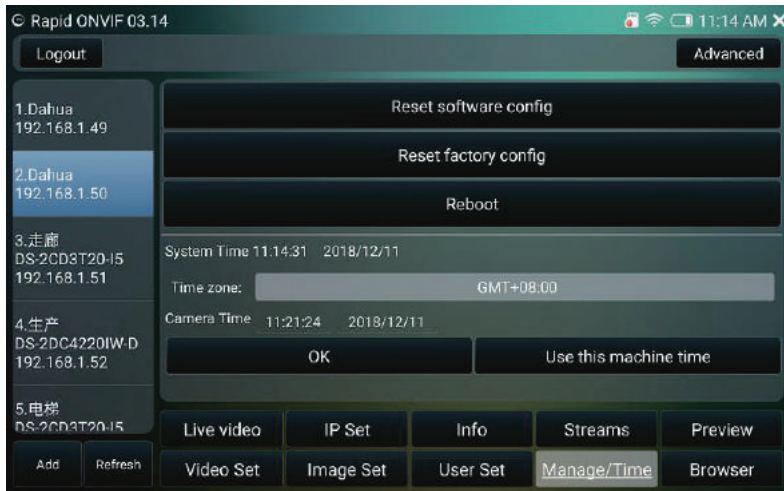

Figure 21
2) Maintenance / time, touch the Manage / Time setting button to reboot camera, reset configuration or change Time zone, as shown in Figure 21
File management function enables you to perform copy, move, rename or other operations for internal storage and external SD card files conveniently, when the instrument is connected to LAN, FTP function is also available, you can perform file operations directly on computer instead of pulling out SD card. Touch 'Explorer' icon to enter this App, as shown in Figure 21